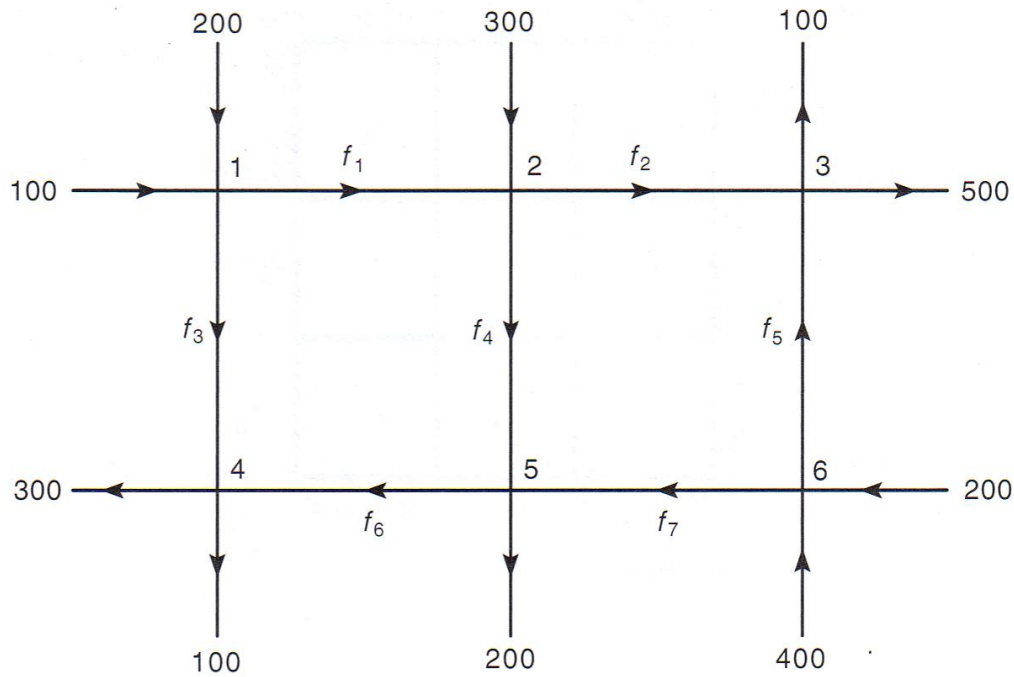

Figure P13
- 13.** See Figure P13. Assume that no vehicles stop within the network. A traffic engineer wants to know if the traffic flows f_1, f_2, \dots, f_7 (in vehicles per hour) can be computed given the measured flows shown in the figure. If not, then determine how many more traffic sensors need to be installed, and obtain the expressions for the other traffic flows in terms of the measured quantities.